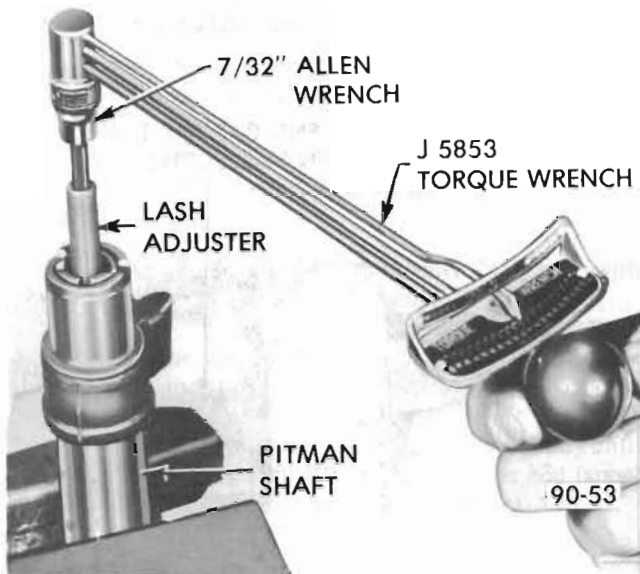

Figure 90-53 Checking Torque on Lash Adjuster
3. Check the torque on the lash adjuster. See Figure 90-53. If torque exceeds 15 lb. in., pitman shaft assembly should be replaced.